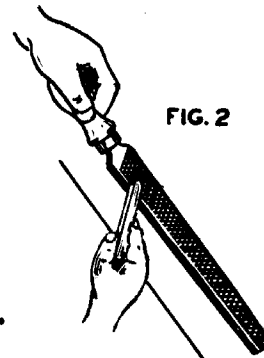

FIG. 2
3. To remove soft metal particles which clog the file, a better method is to use a narrow strip of brass or copper. The strip of metal is pushed across the file parallel with the teeth, so that an impression of the file teeth is cut into the strip. This action dislodges the particles from the teeth (Fig.2).